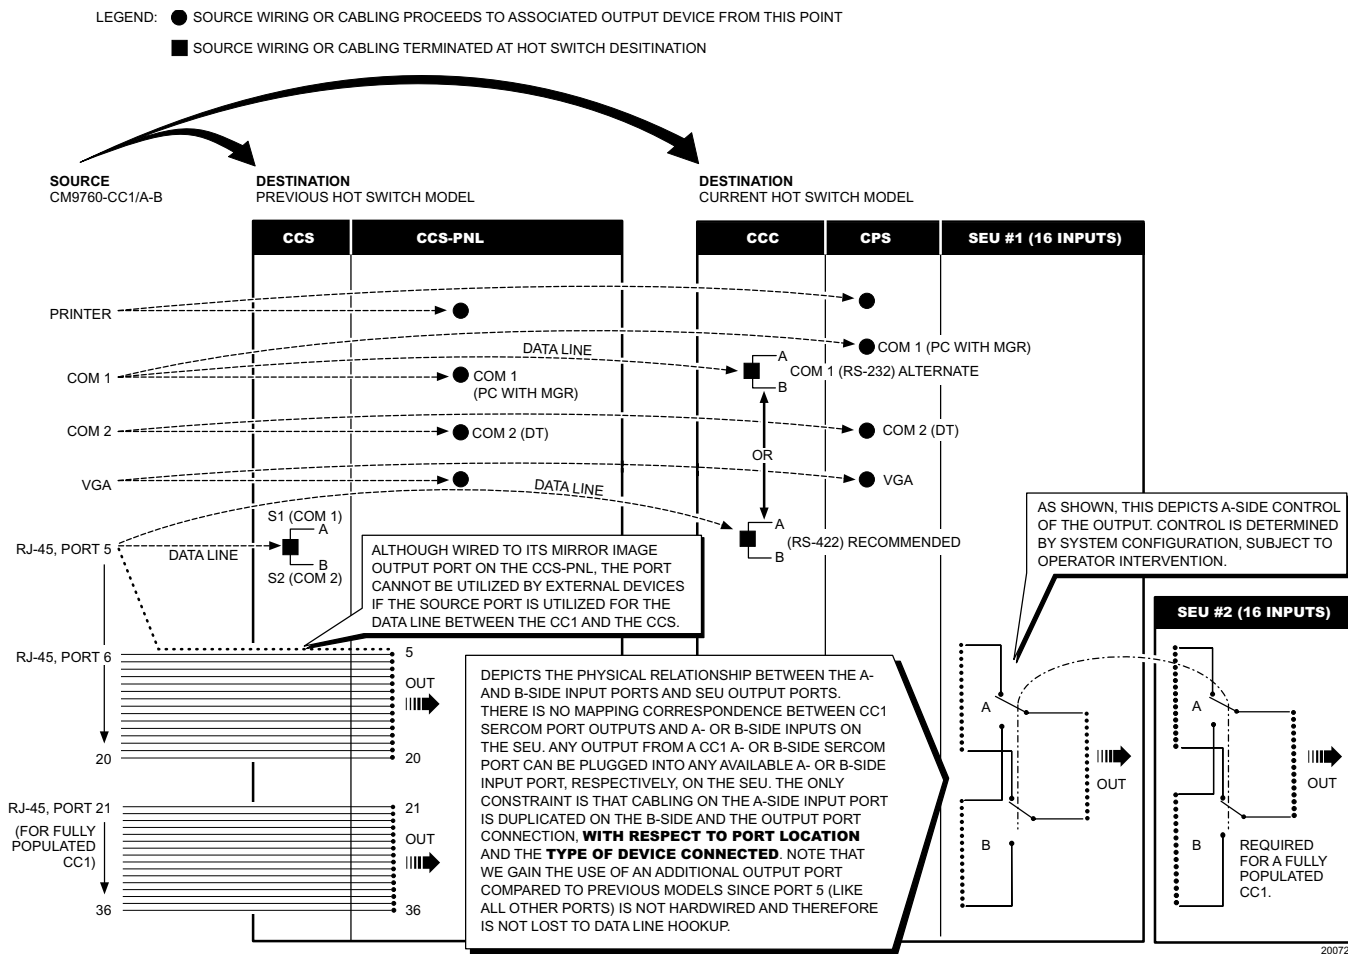

Figure A4-1. Hot Switch Comparison Summary
To ease the transition process for those migrating to the current hot switch, Figure A4-1 highlights the connection similarities and differences between previous and current HS models.
The Source and Destination relationships in the current hot switch are defined by the connection cabling alone. The result is a more flexible hot switch. This flexibility can be seen in Figure A4-1.
Even so, you can set up the Source-Destination relationships of the connectors for the current hot switch in the exact same manner as was done in the previous hot switch. This relationship equivalency can between the previous and current hot switch can be read off directly from Figure A4-1 for the current hot switch as follows:
Figure A4-1 also highlight the two major differences between the current and previous hot switch:
The COM 1 and COM 2 Destination ports for the previous hot switch allowed for the connection of the PC w/MGR and, if desired, an ASCII Control Device interfaced via a Pelco DT, for example. The same relationship can be repeated in the current HS via the COM 1 and COM 2 Destination ports (located on the CPS) for the devices just mentioned, which are shown in Figure A4-1. Note that COM 1 is usually reserved for the connection of the PC w/MGR in the current HS. What is new is that the current HS allows an alternate choice (RS-232 instead of RS-422) for the Data Line connection between the Source COM ports and the CC1 (A & B) DB9 ports located in the CCC. This choice was not available for the previous hot switch.
If you make this choice, however, the COM 2 (DT) Destination connection located on the CPS and shown in Figure A4-1 cannot be used. This is because one of the Source COM ports must be available for the connection of the PC w/MGR. The choices available for COM 2 port use are covered in Figure 1-6.
Six more SEUs (in addition to the two referenced in Figure A4-1) can be added by simply connecting them to the hot switch common bus. This generously allows for any future expansion of Sercom port use.